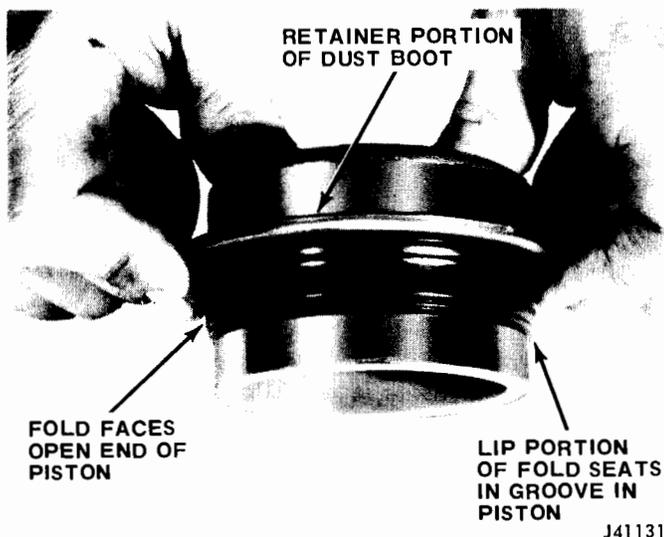
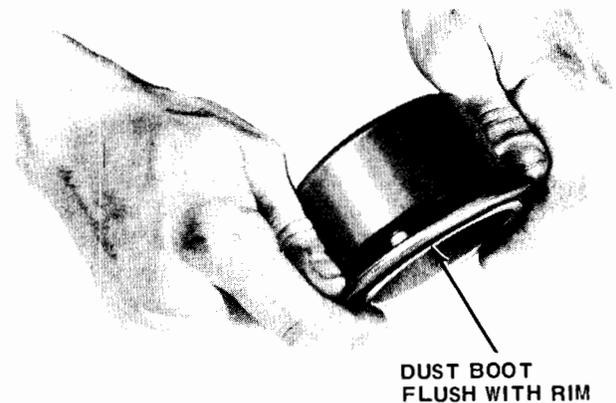
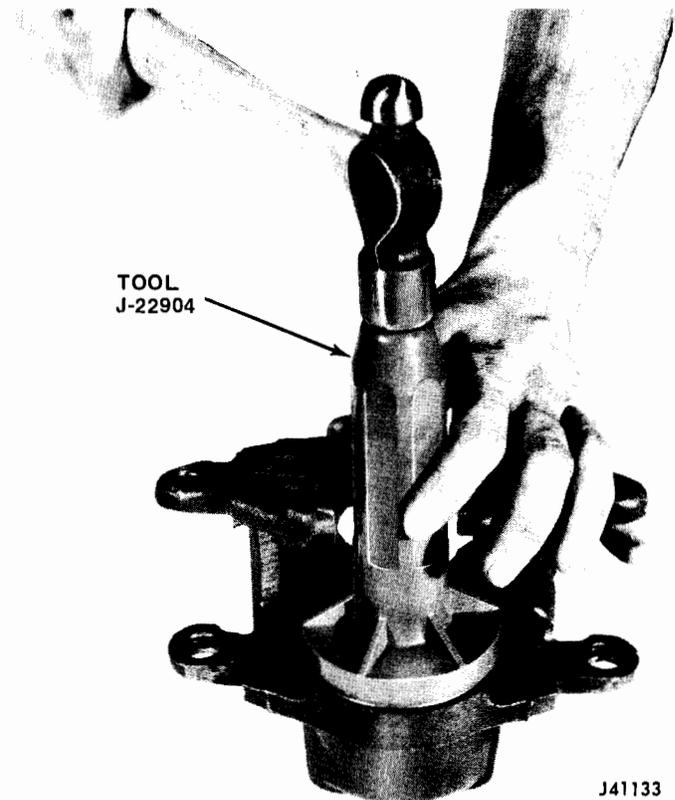

Fig. 9-36 Installing Dust Boot on Piston
Fig. 9-37 Snapping Dust Boot into Place
Fig. 9-38 Seating Dust Boot Retainer
(15) Lubricate bore and new seal with brake fluid and install seal in groove.
(16) Lubricate piston with brake fluid and install new dust boot on piston. Install dust boot in piston groove so that fold in boot faces open end of piston. Slide metal retainer portion of dust boot over open end of piston and push retainer toward back of piston until lip on fold seats in piston groove (fig. 9-36). Push retainer portion of boot forward until boot is flush with rim at open end of piston and snaps into place (fig. 9-37).
(17) Insert piston in bore. Do not unseat piston seal. It requires 50 to 100 pounds of force to bottom piston.
(18) Install dust boot retainer in counterbore at top of piston bore. Seat dust boot retainer using Tool J-22904 (fig. 9-38).